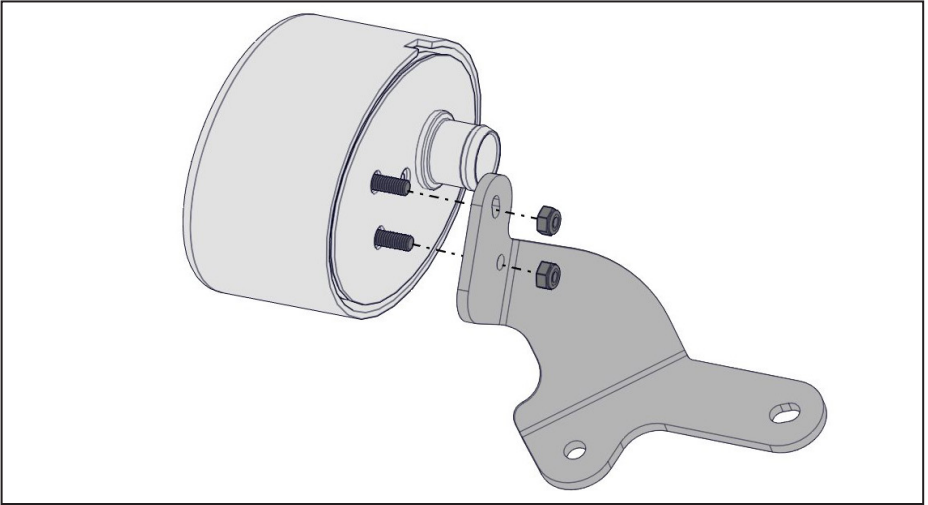

Figure 80 — Air filter and bracket
- Mount the VMAC air filter assembly to the supplied bracket using the supplied M6 nylon lock nuts (Figure 80).